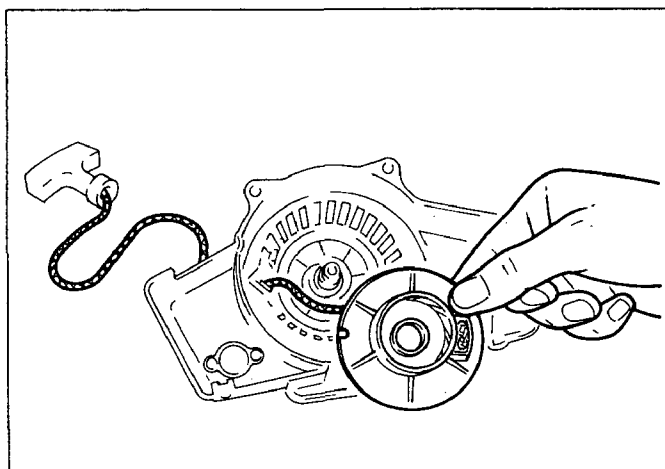

Fig. 24
- (6) Remove reel from starter case as shown in Fig. 24.